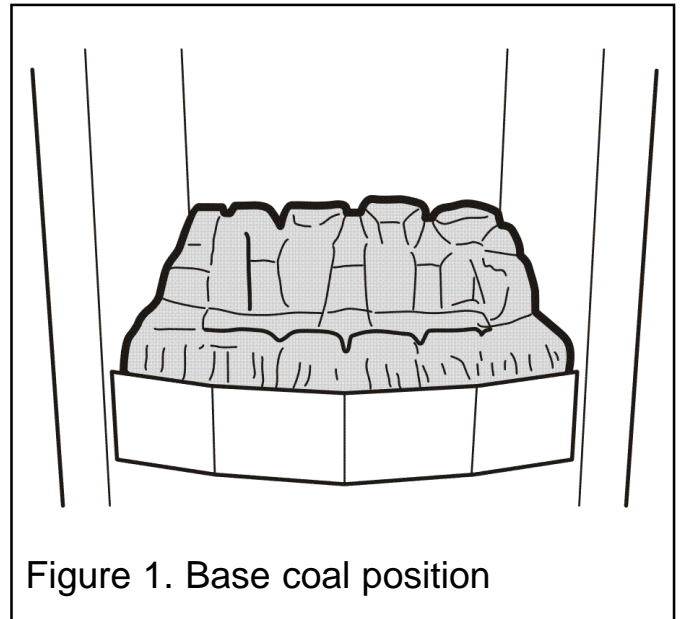

Figure 1. Base coal position
1. Place the base coal in the firebox (See figure 1).